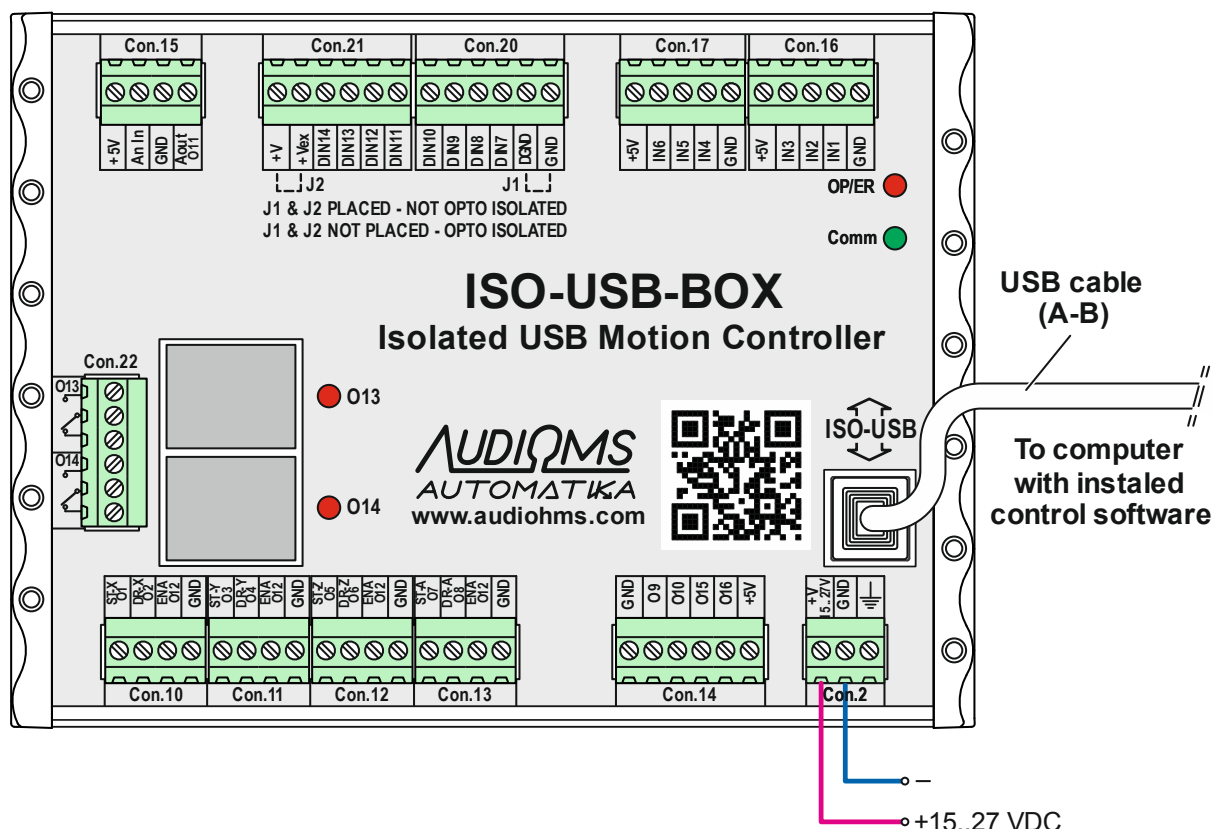

Figure 8.1 Connection with computer and connecting power supply to ISO-USB-BOX motion controller
For powering ISO-USB-BOX motion controller it is required to provide external power supply 15-27 VDC/500 mA (recommended 1A) (Figure 8.1). **ISO-USB-BOX motion controller is NOT powered from USB port.**
For connecting ISO-USB-BOX motion controller to a computer type A-B USB cable is used (Figure 8.1). A quality USB cable should be used, if possible no longer than 1.5 m. Usage of USB cable with ferrite noise suppression chokes is recommended (Figure 8.2). **The motion controller is supplied with a high-quality 1m long USB cable with two ferrite chokes.**
- Some third-party drivers have inverted logic for the ENA (Enable) signal. The ISO-USB-BOX motion controller cannot provide the mentioned requirement and **in that case does not connect the ENA+ and ENA- lines (Figure 8.1). Then the drivers will always be active.**